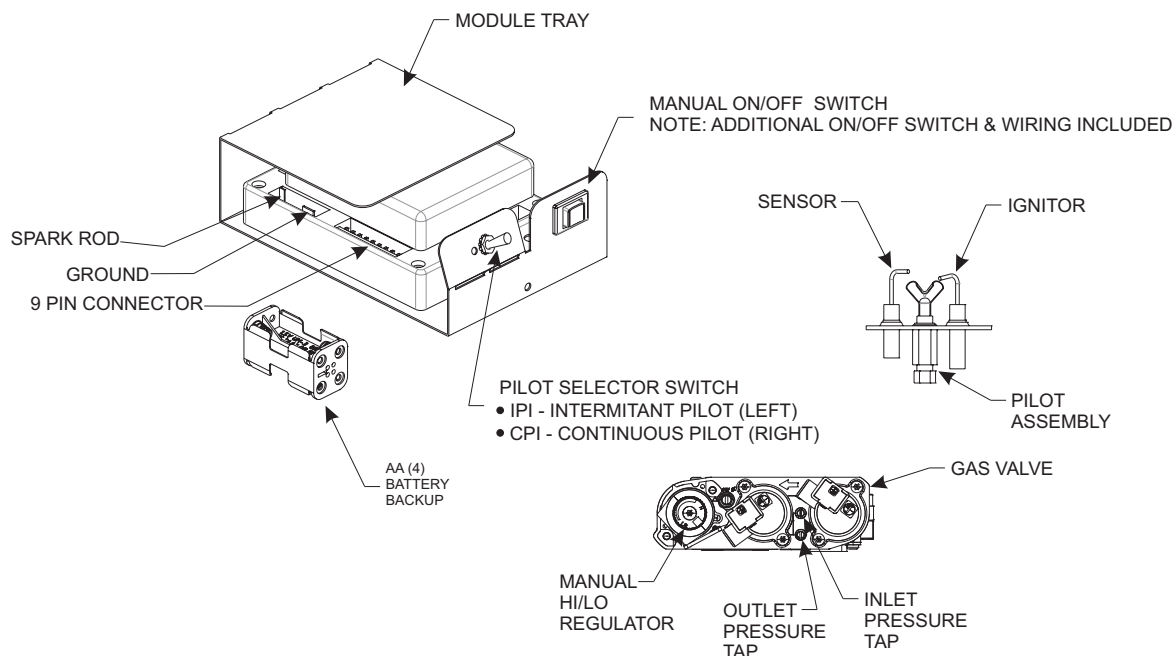

Figure 75
See Figure 75.
3. The gas valve has inlet and outlet pressure taps as shown in **Figure 75**. Refer to pages 8 and 17 for gas pressure requirements.
NOTICE: The gas control has a manual HI/LO flame adjustment knob (regulator) that allows you to increase or decrease the height of the burner flame. **See Figure 75**. Rotate the HI/LO knob counterclockwise to "HI" to increase the flame height, and clockwise to "LO" to decrease the flame height.
To connect the remote receiver to the appliance, first disconnect the ON/OFF switch wires from the white and green wire connectors and connect the wires from the remote receiver to the green and white wire connectors. **See Figure 75.**